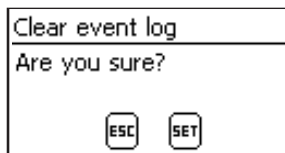

Fig. 16 Clear event log dialog
1. Press 'SET'. Fig. 16 appears.